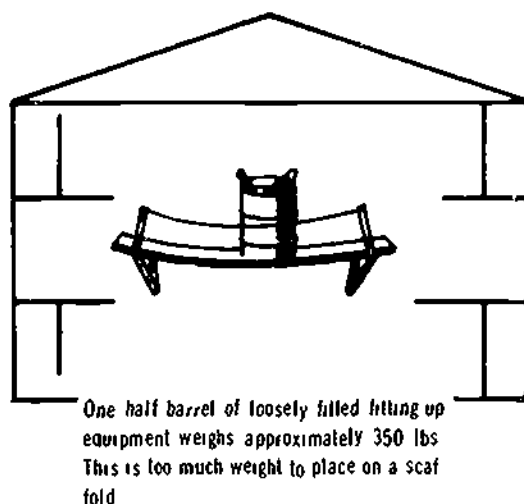

Figure 1-16. Never Overload a Scaffold
4. Excessive storage or accumulation of materials on scaffolds should not be permitted (Figure 1-16).